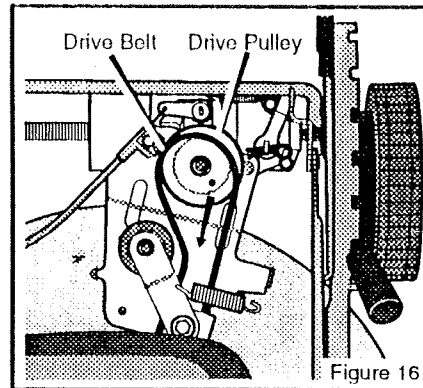

Figure 16
4. Remove the drive belt from the drive pulley (Figure 16).